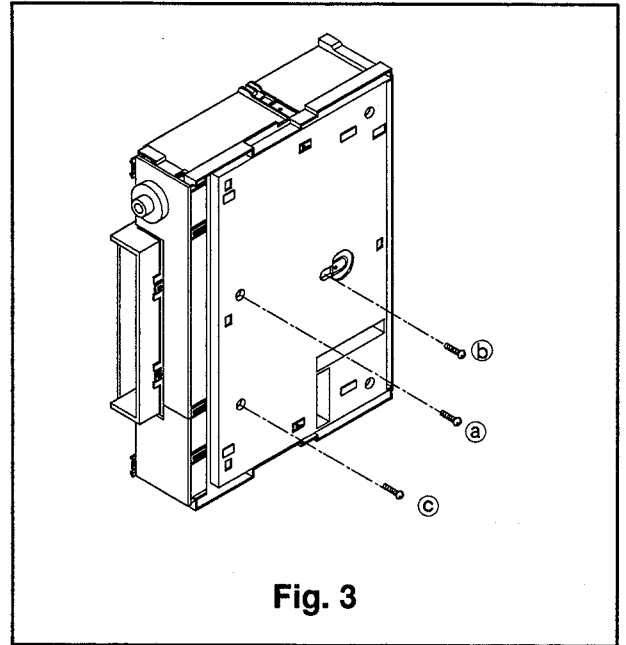

Fig. 3
- ② Push the two inside hooks (f and g), holding the Bottom Panel and slide the Bottom Panel toward the rear to remove it.
- ① Remove the Top Cover referring to Para. 1 of the DISASSEMBLY.
- ② Remove the three fastening screws (a), (b) and (c) on the bottom of the set shown in Fig. 3.